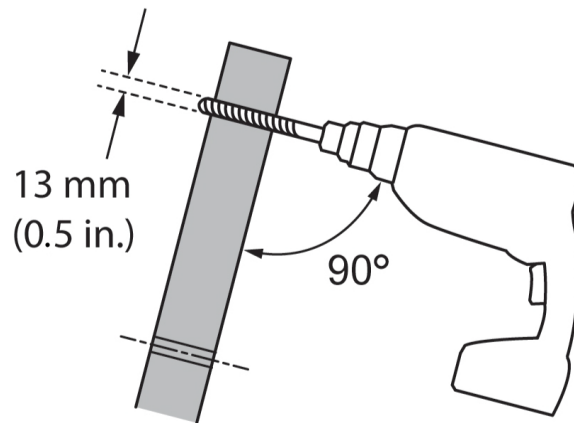

Fig. 44 *Installing Transom mount*
2. Drill 13 mm (0.5 inches) mounting holes perpendicular to the transom. See Figure 44.